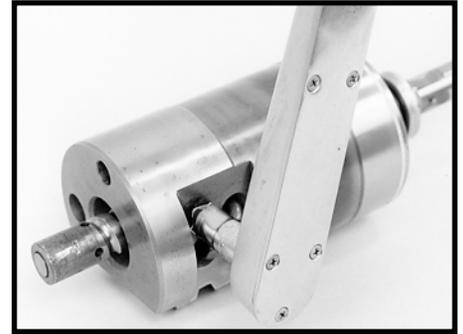

Figure 113
10. If your gear is equipped with the ball return guide clip (46A), install it so that both bolt hole faces are in full contact with the rack piston (29) surface. Install the two lock tabs (47A) and the two hexagon head bolts (47B) Torque the bolts to 14-22 ft. lbs. (19-30 N m). Finish by bending up the lock tabs against the bolt heads. SEE FIGURES 113, 114. 1/2 inch socket required.